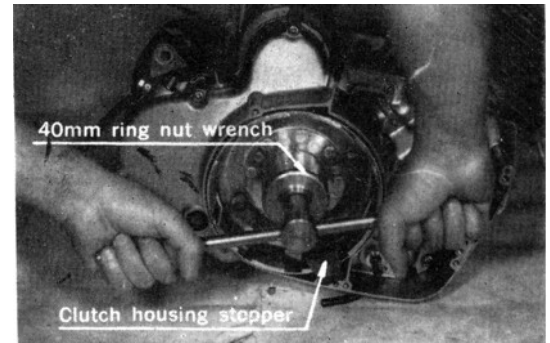

Fig. 18 Removing ring nut
5. Remove ring nut with the clutch-housing stopper and the ring nut wrench (special tools) and then remove clutch housing. (Fig.18,19)